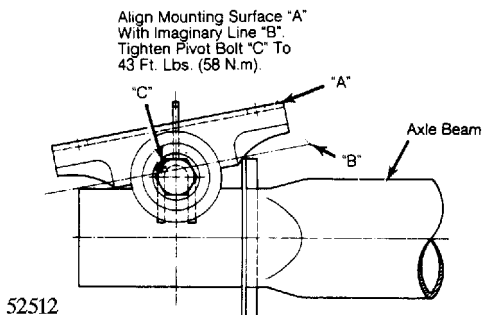

Fig. 2: Correct Alignment of Axle Beam Mounting Pad
1) If axle beam mounting has been removed, adjust mounting pad. See Fig. 2. If pad is not correctly aligned, torsional preload of mounting bushings will be incorrect.
2) Using Mounting Bracket Aligner (VW 261 or 3021), align mount. See Fig. 2. Tighten pivot bolt nut to specification with vehicle on ground.